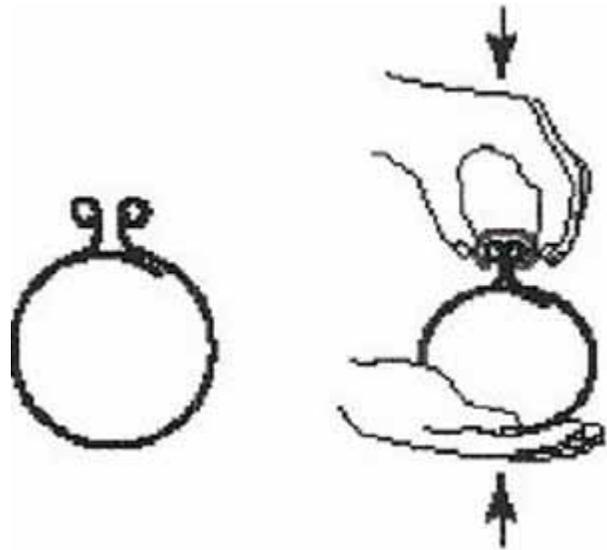

Figure 10
► **Note:** If the channels fit very tightly and will not slide over the rail or over the clip, make sure that the sleeve's flap is not pinched between the rails. Then push the sleeve up from the bottom and down on the top while sliding the channels toward the middle of the sleeve. Refer to Figure 10.